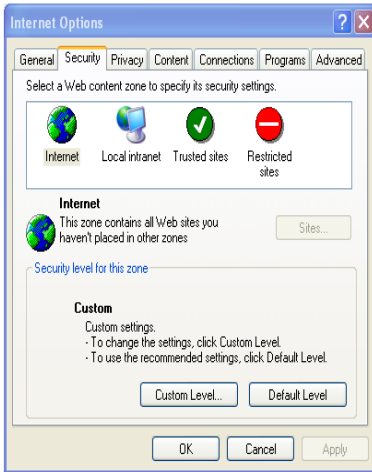

Fig 4-1
- ① Open IE browser/Edge in IE Mode. Click Tools-----Internet Options....
- ② Select Security-----Custom Level....Refer to Fig 4-1.